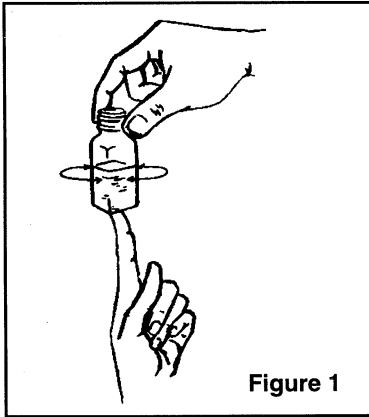

Figure 1
2. Open one PhosVer® 3 Phosphate Reagent Powder Pillow. Add the contents of the pillow to the bottle, and swirl to mix as shown in Figure 1. Allow at least two but not more than 10 minutes for color development. If phosphate is present, a blue violet color will develop.
3. Add demineralized water to the mixing bottle to the 20-mL mark. Swirl to mix as shown in Figure 1.
7. To obtain the value as mg/L phosphorus (P), divide by 3 the value obtained in Step 6.